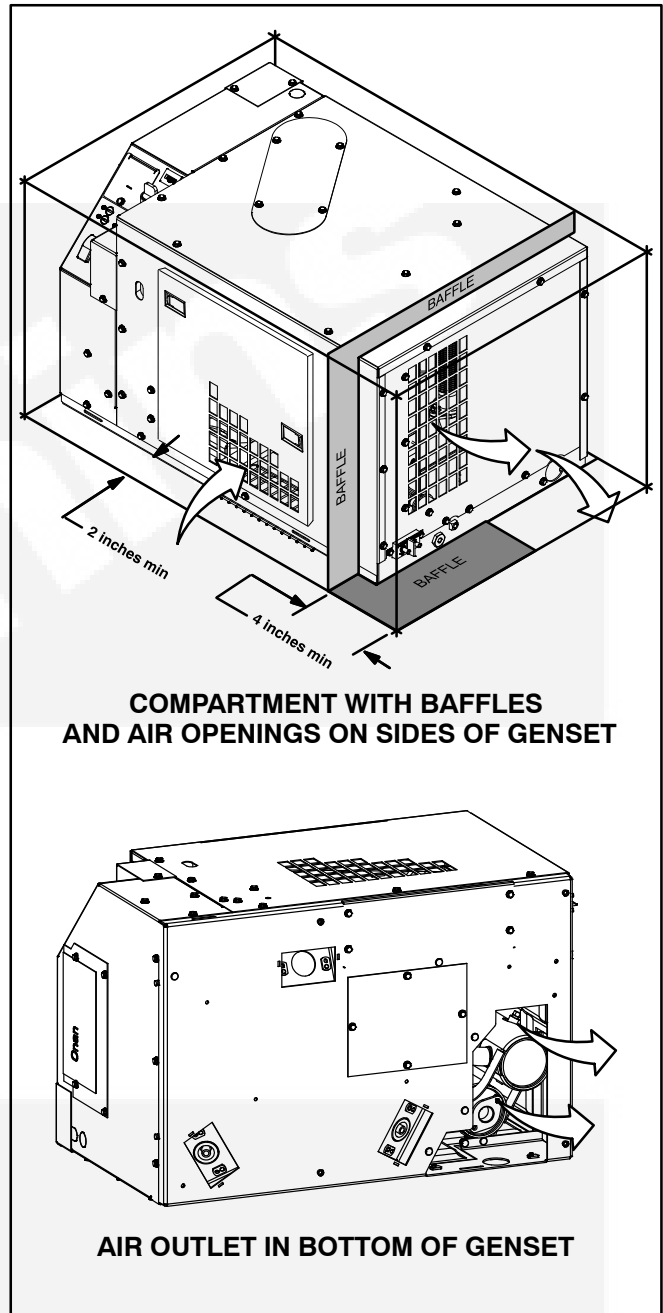

FIGURE 2. GENSET COMPARTMENT WITH BAFFLES TO PREVENT HOT AIR RECIRCULATION
5. A genset compartment must be large enough to provide at least 1/2 inch (12.7 mm) clearance at the top of the genset, 1/4 inch (6.4 mm) at the back and left side, 2 inches (51 mm) at the front for air intake and 4 inches (102 mm) at the right side for air discharge (Figure 2). These minimum clearances apply to any thermal or acoustic insulation with which the compartment may be lined.
Unrestricted air flow for cooling, ventilation and combustion (Figure 2) is essential for proper genset performance and service life. See HOT AIR RECIRCULATION TEST (Page 27).
2. When the genset is installed in a compartment that surrounds the top and sides (Figure 2), provide non-flammable baffles (UL 94 HBF foam or better) to prevent hot side-discharge air from recirculating back into the front air inlet grille. The baffles must extend all the way across the top, down the front and half way back below the side air discharge grille. They must close off the gap between the genset and enclosure.
3. *If the air inlet is in the compartment door*, it must allow the air to flow straight into each opening of the inlet air grille without obstruction (Figure 2).
5. The compartment outlet for side-discharge air must be at least 4 inches (102 mm) wide and extend across the back half of the floor (Figure 2).